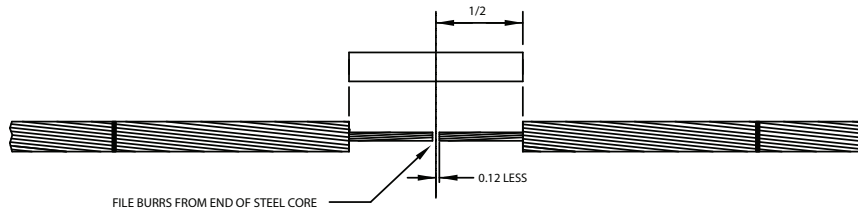

Fig. 3
3. Cut back the aluminum strands on ends of each conductor a distance equal to 1/2 the length of the "Core Grip" Assembly, less 0.12 inches. Use a cable trimming tool. Use tape or tie wire to temporarily retain the conductor's strands in a tight configuration during strand removal. See Fig. 3.